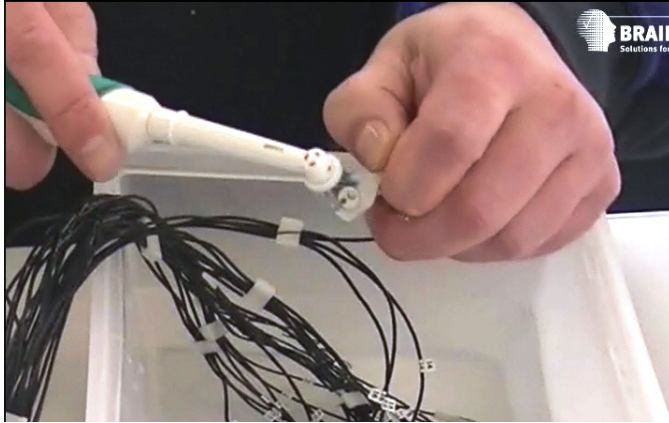

Figure 4-3. Cleaning the electrodes with a toothbrush
- 4 Then clean the electrodes with a toothbrush (see Figure 4-3). If the electrodes are particularly dirty, you can use a mild cleaning agent, for example children's shampoos. Then rinse the elec-